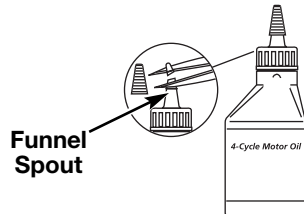

Fig. 4
Your unit is supplied with one 3.04 fluid oz. (90 ml.) bottle of SAE 30 SF, SG, SH oil (Fig. 4).
1. Unscrew the top of the bottle of oil and remove the paper seal covering the opening. Replace the top. Next, cut the tip off the funnel spout (Fig. 4).